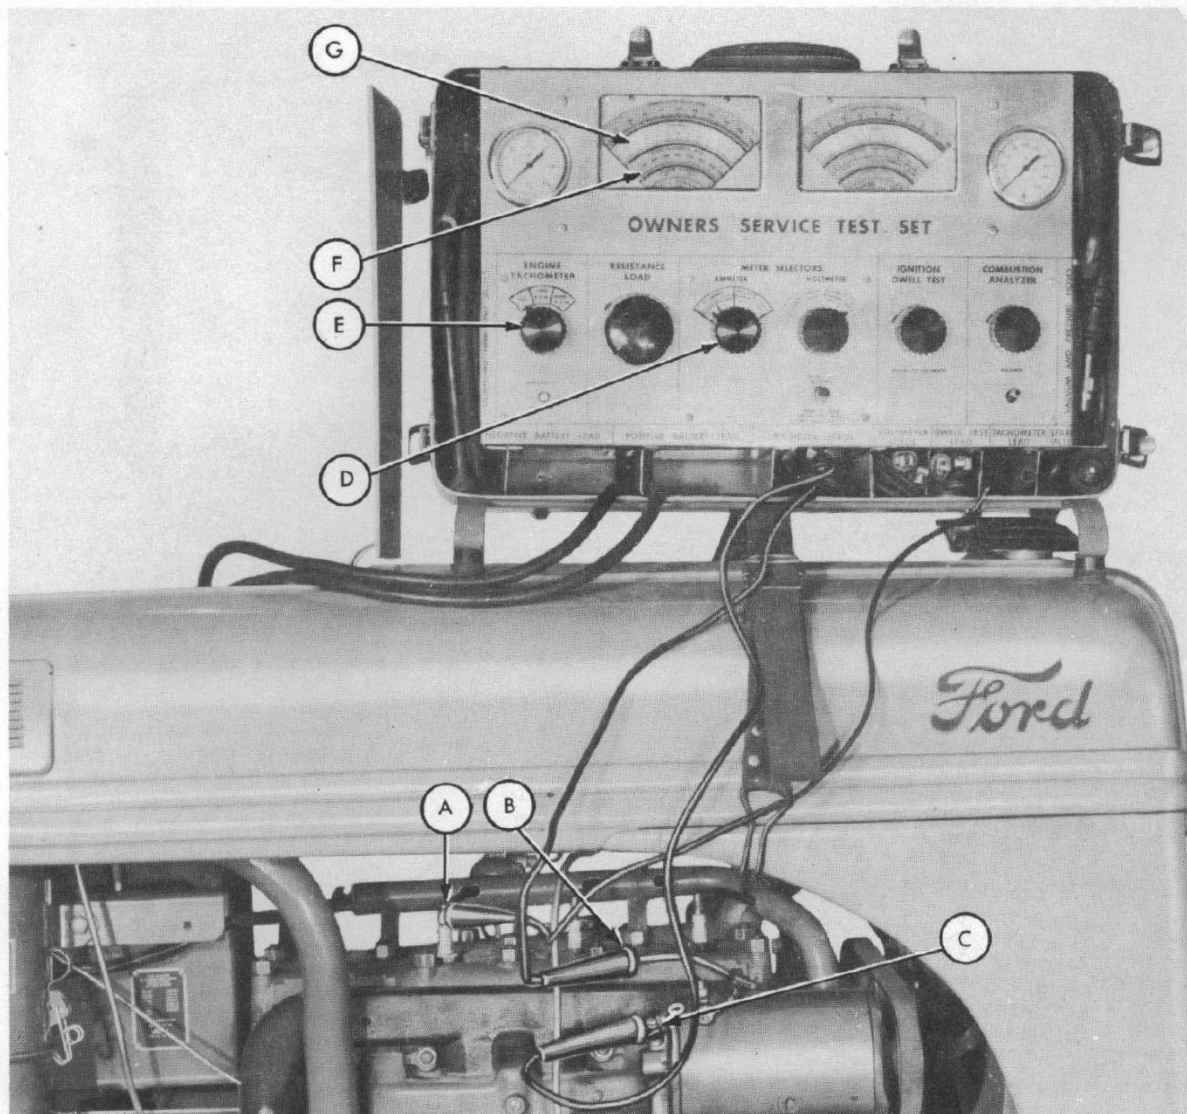

Fig. 7
Step 1—Attach the tachometer lead to any spark plug as shown at (A-Figure 7).
Step 2—Remove the lead from the armature terminal on the generator and connect it to the positive amperage lead of the test set as shown at (B-Figure 7).
Step 3—Connect the negative amperage lead to the generator armature terminal (C-Figure 7).
Step 4—Turn the engine tachometer knob (E-Figure 7) to 4000 RPM.
Step 5—Turn the ammeter knob (D-Figure 7) to **ENGINE TACH.**
Step 6—Start the engine and speed it up to 1500 RPM. Read on Engine Tachometer scale (F-Figure 7).
Step 7—Turn the ammeter knob (D-Figure 7) to **NORMAL**.
Step 8—Read the amperage shown on the 60 amp. scale (G-Figure 7).